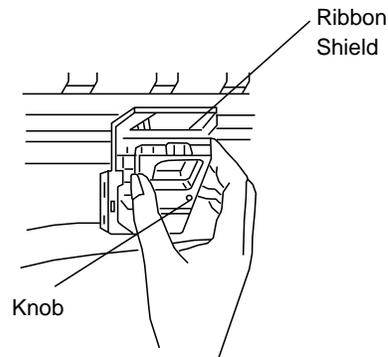

Figure 6-5. Placement of the Ribbon Cartridge
- 9.5. Holding the cartridge in position as shown in Figure 6-5, with the knob facing up and the ribbon shield facing the platen, fit the grooves on either side at the back end of the ribbon cartridge over the pins on the ribbon plate.